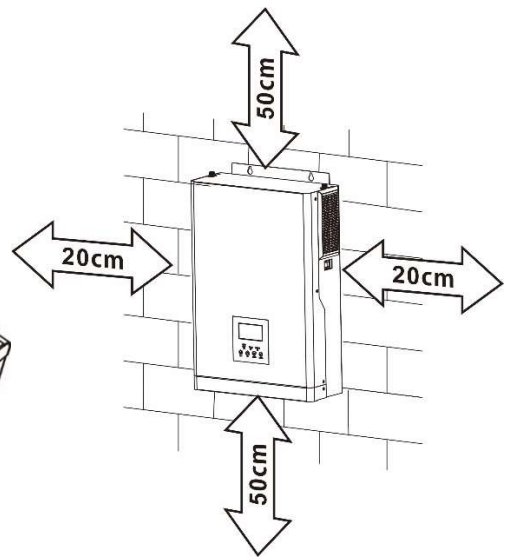

Fig. 4: Minimum distance to other objects
- Ensure a minimum distance to other objects and surfaces as shown in **Fig. 4** to guarantee sufficient heat dissipation and to have enough space for removing wires.